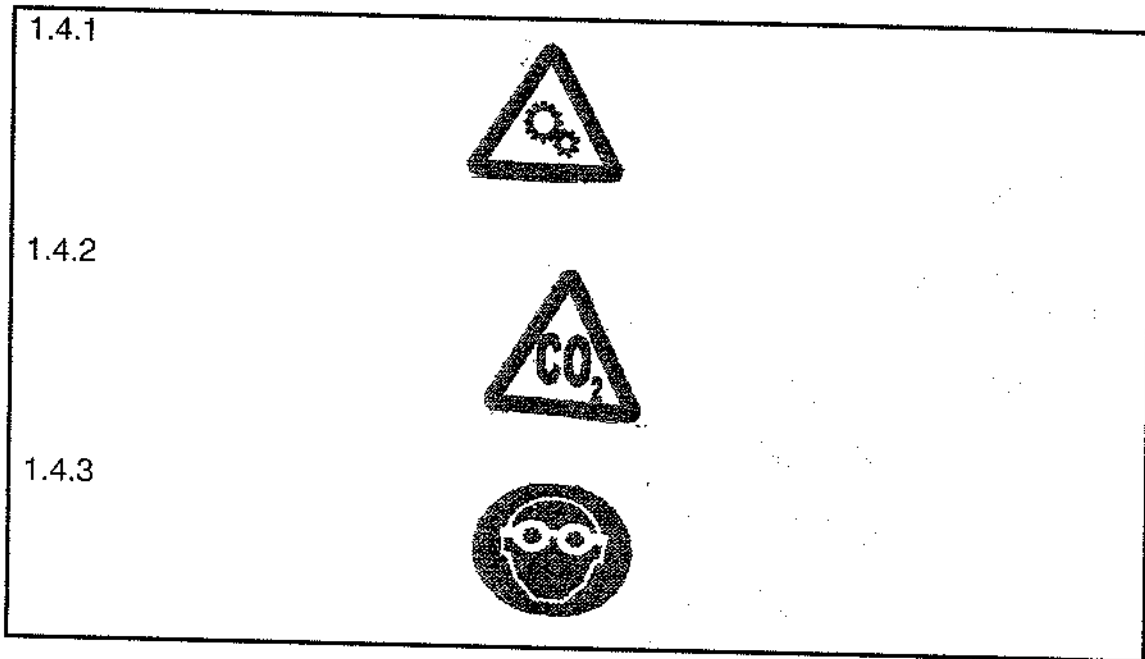

FIGURE 2
1.4 Safety regulations are established in accordance with international standards. State the precautions that each of the safety signs in FIGURE 2 below illustrates. Write only the answer next to the question number (1.4.1–1.4.3) in the ANSWER BOOK.